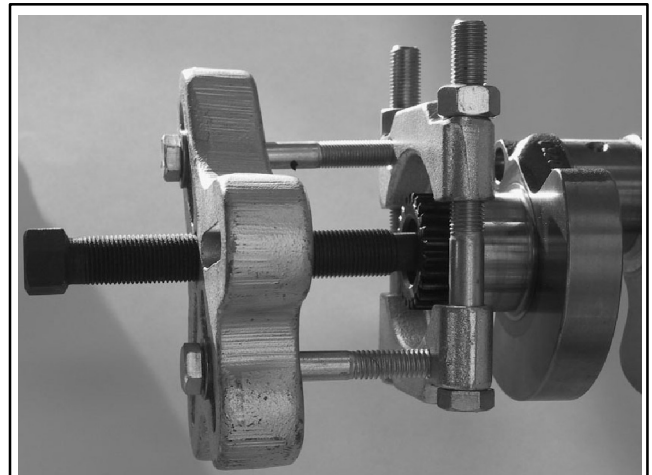

Figure 10-57 Crankshaft
2. Use a puller to release the gear wheel from the crankshaft. See Figure 10-57.